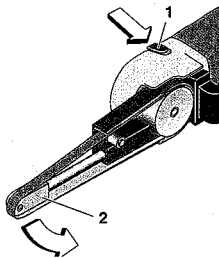

Fig. 6
2. Press retaining knob 1 (Fig. 6) in and adjust the grinding head (2) to the desired angle.